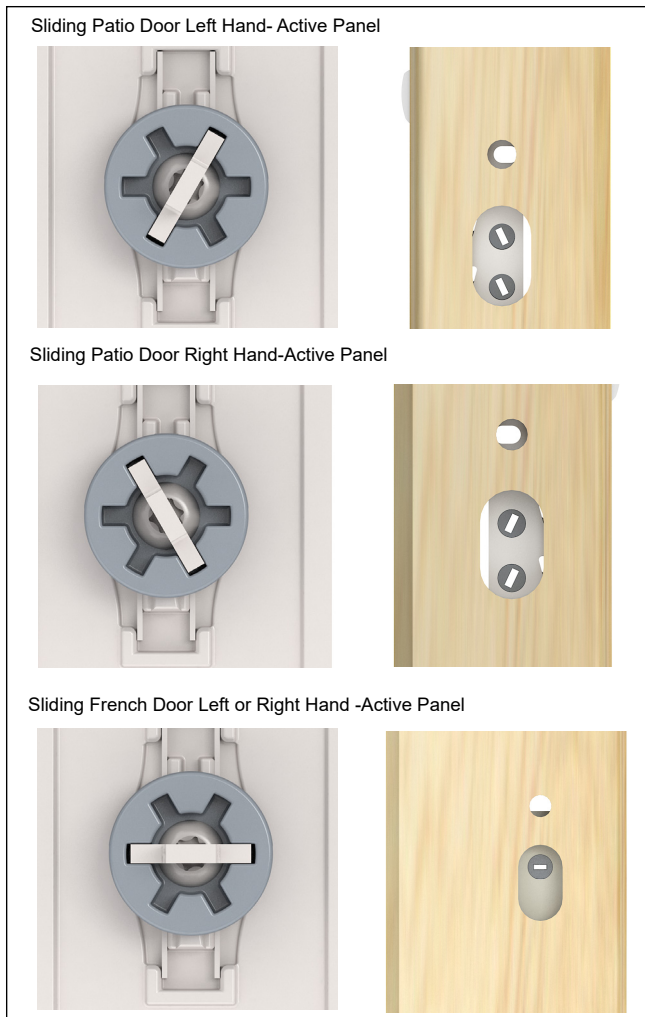

Figure 2
- On the interior of the door, mirror the slot on the lock with the tail piece in the handle. See figure 2.